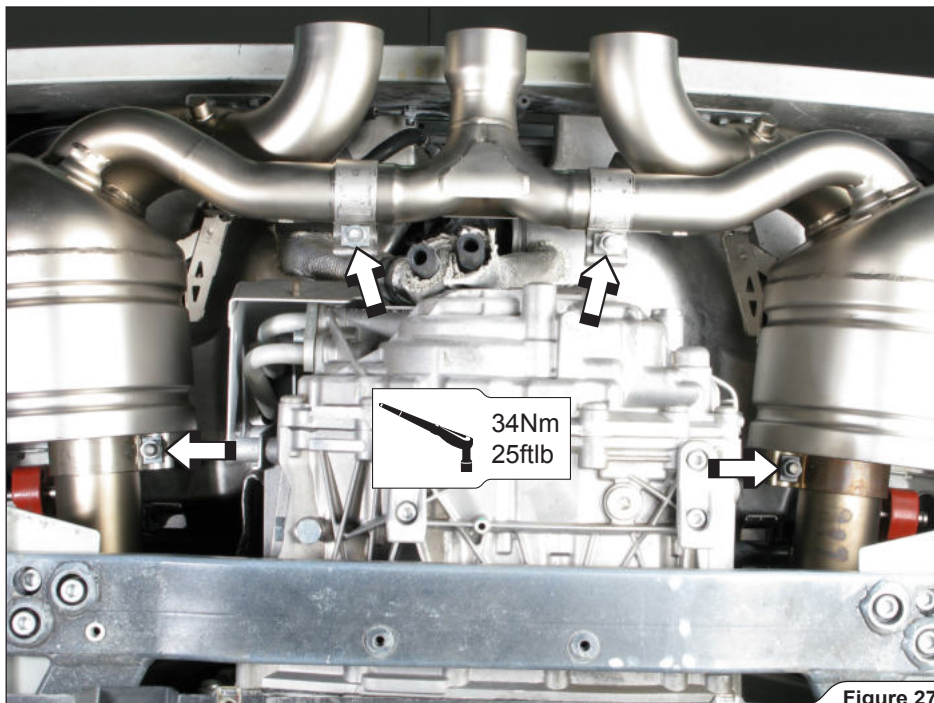

Figure 27
9. **For optional Link Pipes only:** align the collector's outlet in respect to the mufflers' outlets and tighten all clamps to the specified torque (**Figure 27**).